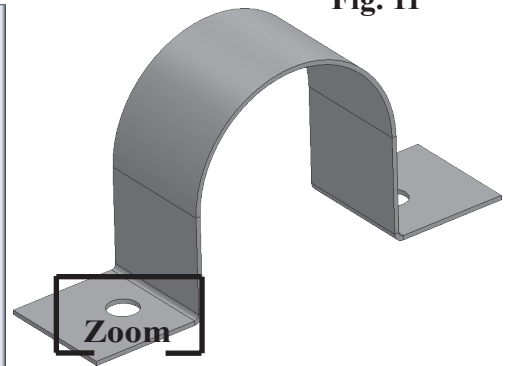

Fig. 13
click OK , **Fig. 13**.
Step 1. Zoom in around **front hole in Motor Mount, Fig. 13**. To **zoom**, hold down **Shift** key and drag with middle mouse button (wheel). To **pan**, hold down **Ctrl** key and drag with middle mouse button (wheel).